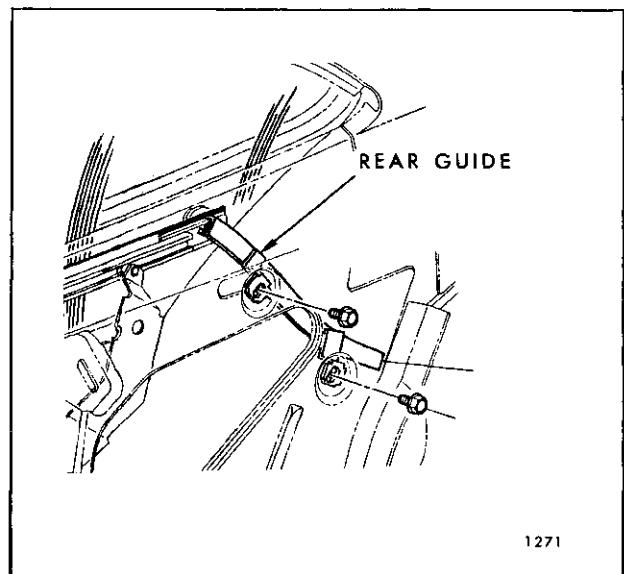

Fig. 7-31—Rear Quarter Window Rear Guide Assembly –
2. As shown in Figures 7-31, 7-40, 7-41 and all phantom views, rear guides are retained by two bolts or adjusting studs. By providing a minimum of support for rear quarter window,